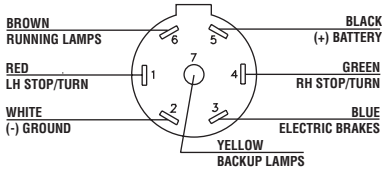

FIG. 2 - View looking into connector
4. Connect the vehicle wires (see note) by using the blue heat sealable butt connectors or splices (provided) to the corresponding wires on the adapter (Fig. 2). Connect the three remaining wires by crimping the yellow heat sealable butt connectors or splices (provided) to the vehicle's trailer (+) Battery power supply, Electric brake control and Backup light circuits provided to the corresponding wires on the adapter (Fig. 2).